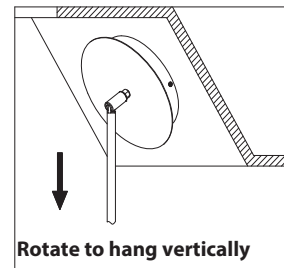

Fig. 1
MOUNTING THE FIXTURE (Fig. 1 Fig. 3)
8. Attach the fixture to the mounting plate using a field inspection supporting cable as shown (Fig.1). This secures the fixture and aids in wiring.